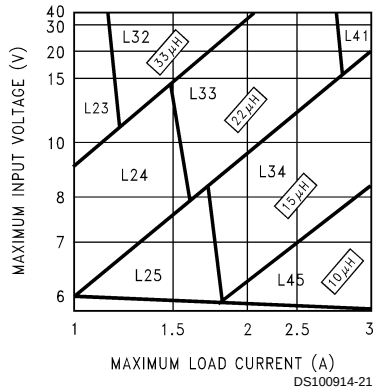
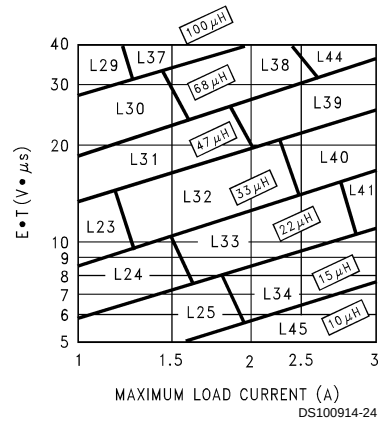

FIGURE 3. LM2676-3.3
FIGURE 6. LM2676-ADJ
Step 3: Determine the inductor required by using one of the four nomographs, *Figure 3* through *Figure 6*. Table 1 provides a specific manufacturer and part number for the inductor.
Step 5: Determine an input capacitor from Table 4 for fixed output voltage applications. Use Table 2 to find the specific capacitor type. For adjustable output circuits select a capacitor from Table 2 with a sufficient working voltage (WV) rating greater than $V_{in\ max}$, and an rms current rating greater than one-half the maximum load current (2 or more capacitors in parallel may be required).
Step 3: Use the nomograph for the 3.3V device, *Figure 3*. The intersection of the 16V horizontal line ($V_{in\ max}$) and the 2.5A vertical line ($I_{load\ max}$) indicates that L33, a 22 μ H inductor, is required.
Step 3: To use the nomograph for the adjustable device, Figure 6, requires a calculation of the inductor Volt•microsecond constant ($E \cdot T$ expressed in $V \cdot \mu S$) from the following formula:
Using Figure 6, the intersection of 27V•μS horizontally and the 2A vertical line (I_{load} max) indicates that L38, a 68μH inductor, should be used.
Important Note: When using the adjustable device in low voltage applications (less than 3V output), if the nomograph, Figure 6, selects an inductance of 22μH or less, Table 6 does not provide an output capacitor solution. With these conditions the number of output capacitors required for stable operation becomes impractical. It is recommended to use either a 33μH or 47μH inductor and the output capacitors from Table 6.